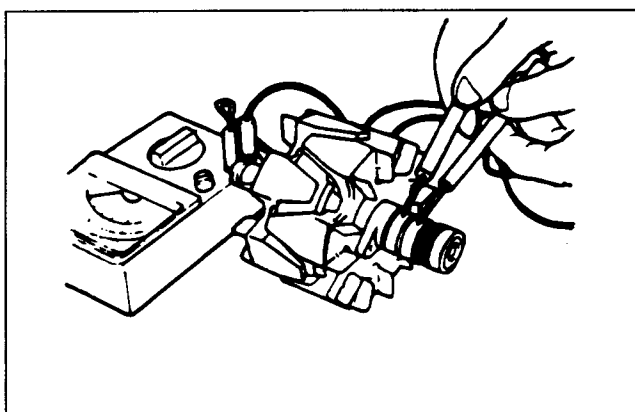

Figure 50
10. Check the field coil for continuity between the slip rings (Fig. 50). If there is no continuity, replace the field coil.